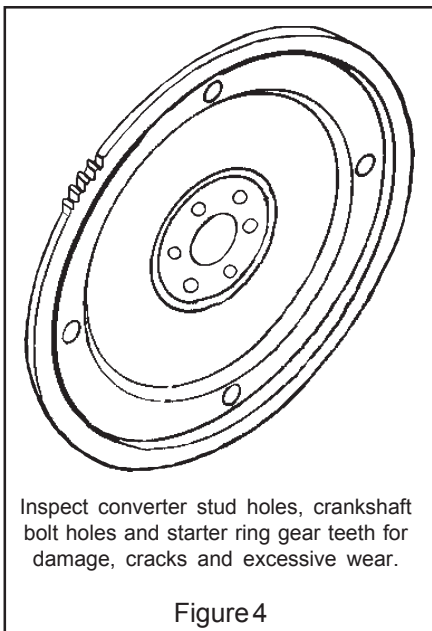

Figure 4
**STEP 13.** Inspect your flexplate. Check for distortion, excessive warpage or worn/elongated stud holes. (See Fig. 4) The flexplate should not be "dished" backwards. Check condition of starter ring gear teeth. Distorted or worn flexplates should be replaced.
**C-4:** (4) 3/8" studs on 11.40" B.C.
(4) 3/8" studs on 10.50" B.C.